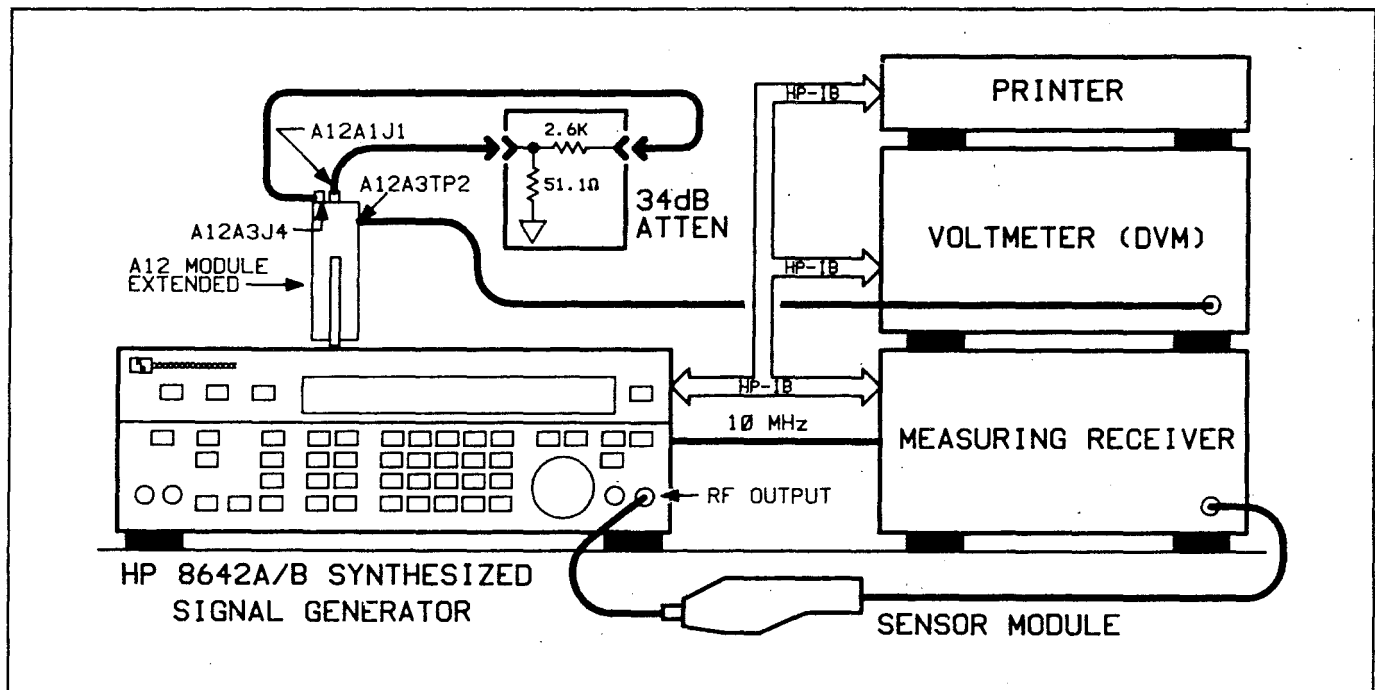

Figure 80-15. Set up 5
14. When "WAITING FOR SET-UP 5 .V28" appears: (refer to Figure 80-15 Set-up 5)